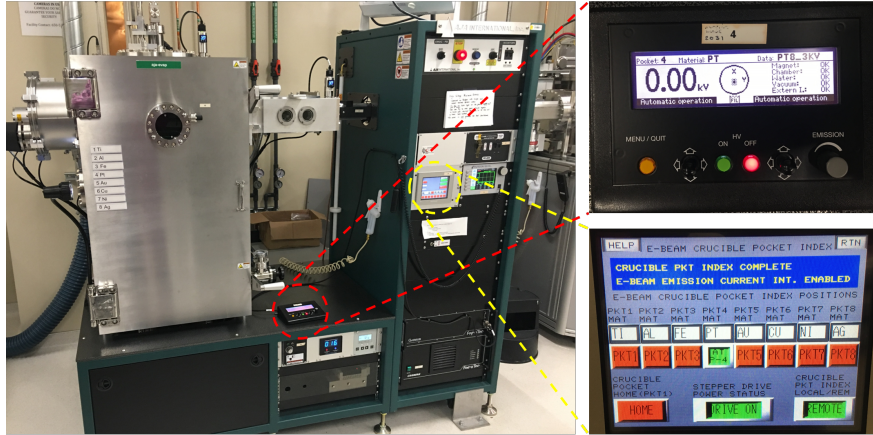

Figure 20: The AJA evaporator tool, along with the user interfaces to input recipes and specify the deposition material.
- Open the load lock valve separating the main chamber and the load lock by pressing the red "OFF" button labeled "LLIV" on the touchscreen controller main screen, seen on the lower-right in Figure 20. There should be a noise coming from the valve indicating that it is open. In addition, two red LED lights beneath the load lock must have switched from the top one being illuminated, to the bottom one being illuminated.
- Close the load lock valve by pressing the green "ON" button labeled "LLIV" on the touchscreen controller main screen, seen on the lower-right in Figure 20. There should be a noise coming from the valve indicating that it is closed. In addition, two red LED lights beneath the load lock must have switched from the bottom one being illuminated, to the top one being illuminated.
- Select the correct material, aluminum, on the "Gameboy" controller, seen in the upper-right of Figure 20, by pressing on the yellow "Menu/Quit" button on the left. Use the left joystick to move the arrows up or down to "Set pocket".
- Make sure the chamber pressure is below 5E-7 before turning on the e-beam power supply, on the right of the overall system portion of Figure 20. It is a green switch labeled "MAIN" at the bottom of the right stack of controlling equipment on the tool. Press the "ON" button under "HV" on the "Gameboy" controller.